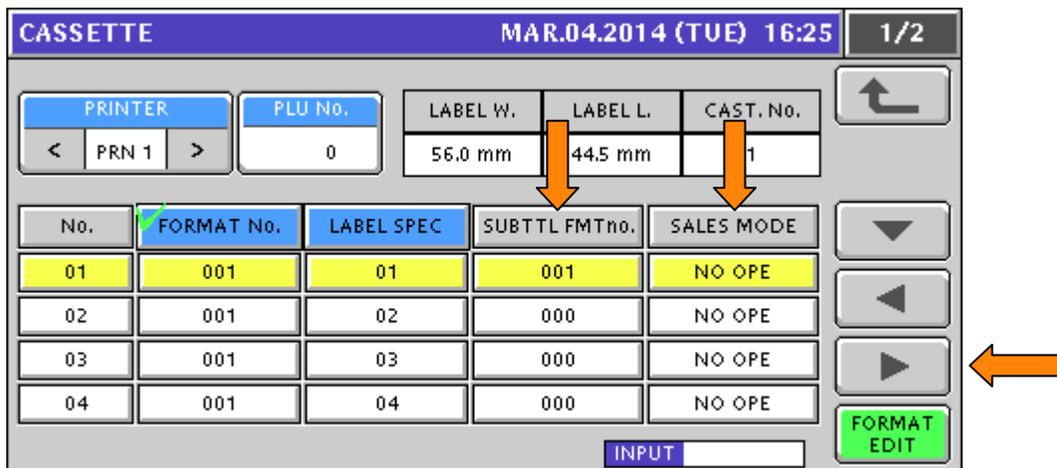

Figure 7.5. Label Cassette Setup: Subtotal Label Format No. and Sales Mode
18. Press the ► button to move to the next page. See Figure 7.5.